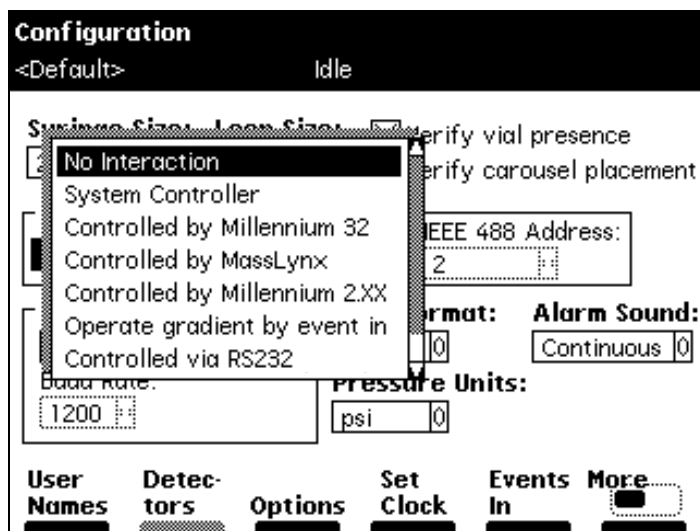

Figure 3-16 Configuring the Operating Mode
You can configure the 2795 Separations Module to operate in one of five operating modes (see Figure 3-16):
2. Select **System** in the Configuration screen, then press **Enter** to display the list of operating modes (Figure 3-16).
1. Select **System** in the Configuration screen, then press **Enter** to display the list of operating modes (Figure 3-16).